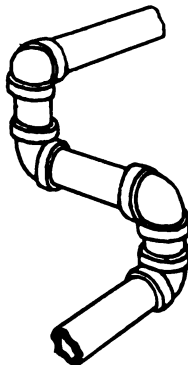

Fig. 35.—A Double Swing Joint.
A. A "double swing" or "universal" swing joint is made by employing four elbows and nipples and when employed allows the piping to expand in any direction without breaking the fittings or without disturbing the alignment of the pipe. Fig. 35.